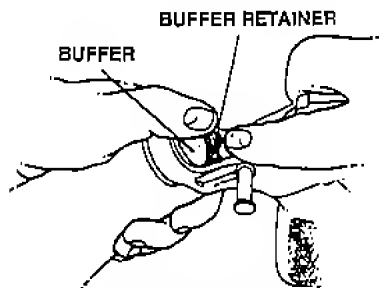

FIGURE 12 —
14. Depress buffer, maintaining pressure as buffer is under spring tension, to prevent it from being ejected when buffer retainer is depressed. Depress buffer retainer to permit buffer and action spring to move forward. (See Figure 12.) Then depress the hammer to allow the